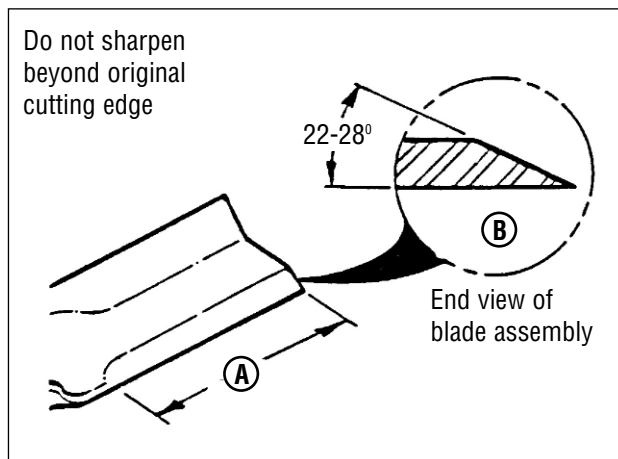

Figure 21: Sharpening the mower blade
- Sharpen the blade on a grinding wheel at an angle of 22 to 28 degrees (**B**, **Figure 21**). DO NOT sharpen the blade beyond the original cutting edge (**A**).